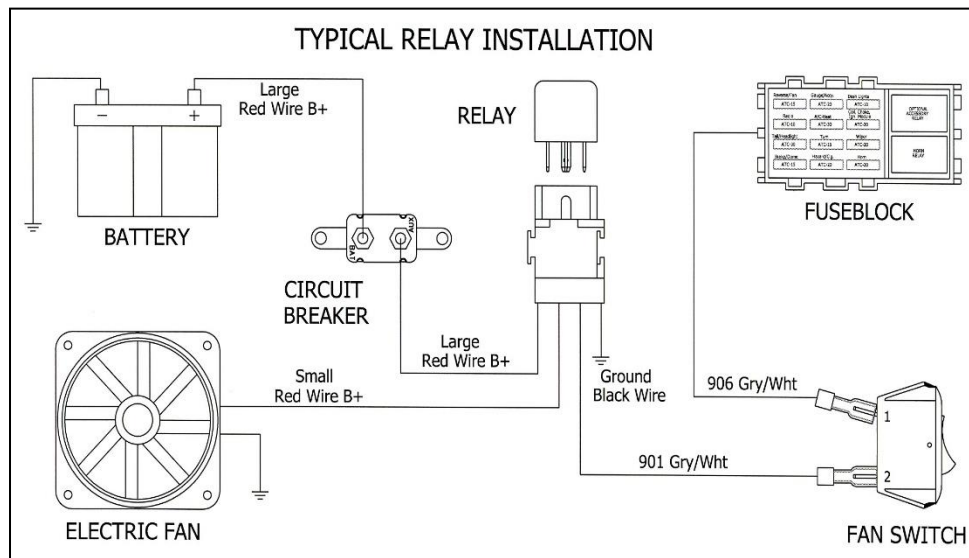

Figure 8-3C Typical fan relay installation
8.3.8 Connect HEADLIGHT SECTION A wire #901 (GRY/WHT) to the Electric Fan Relay. This wire is an activation wire for the relay, **NOT A POWER FEED**. The other end of wire #901 is in the ACCESSORY SECTION SWITCHES and should be connected to a electric fan switch in the dash. Connect 906 (GRY/WHT) from ACCESSORY SECTION B+ to the other side of the fan switch. **Figure 8-3C** shows a typical fan relay installation.